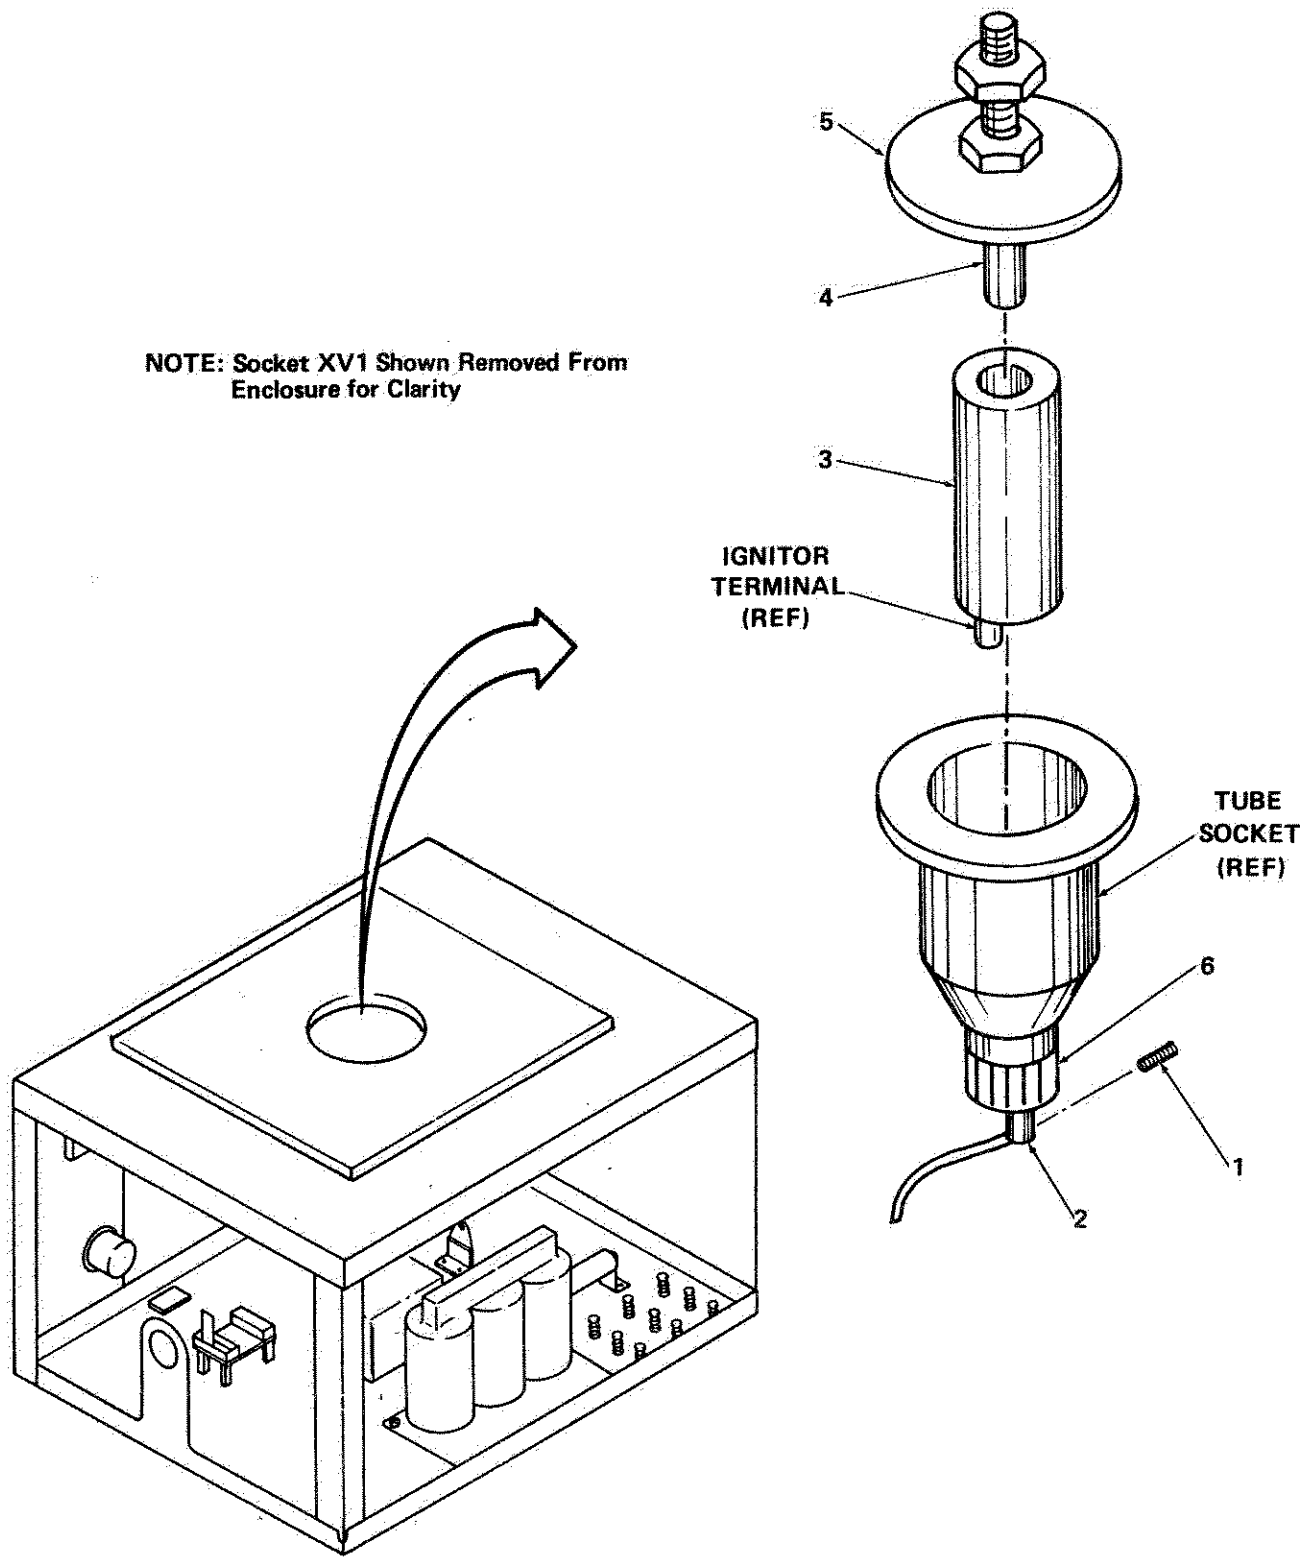

Figure 6-146. V1 Removal/Installation
6-9.7.1 V1 Removal. Refer to Figure 6-146 and perform the following.
6-9.7.2 V1 Installation. Refer to Figure 6-146 and perform the following.
2. Place V1 (3) into socket as shown in Figure 6-146. Hold by upper end and tighten clamp (6).
3. Hold upper end of V1 (3) firmly and install plate (5) and anode terminal (4) by screwing anode terminal onto top of V1.
4. Install ignitor (2) on ignitor terminal and tighten set screw (1).